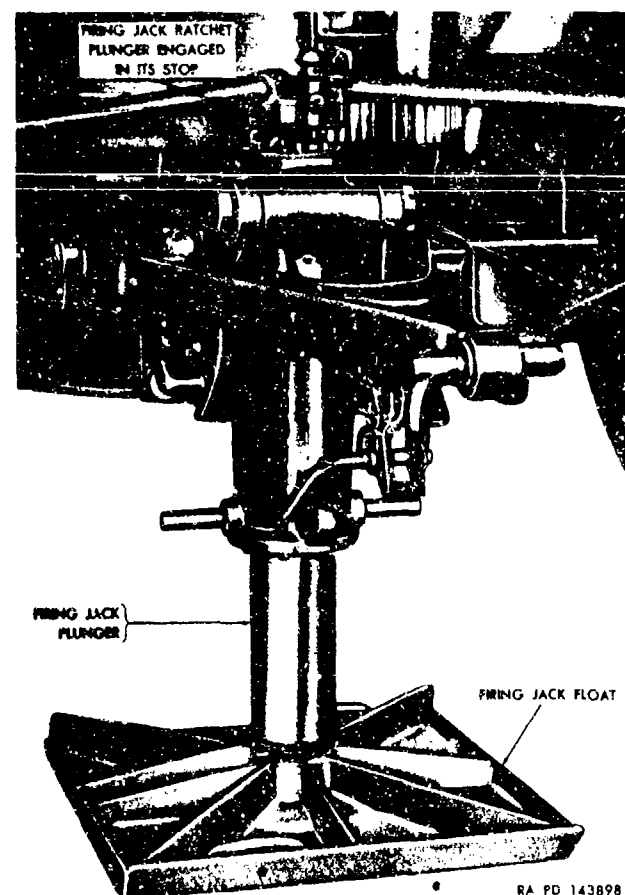
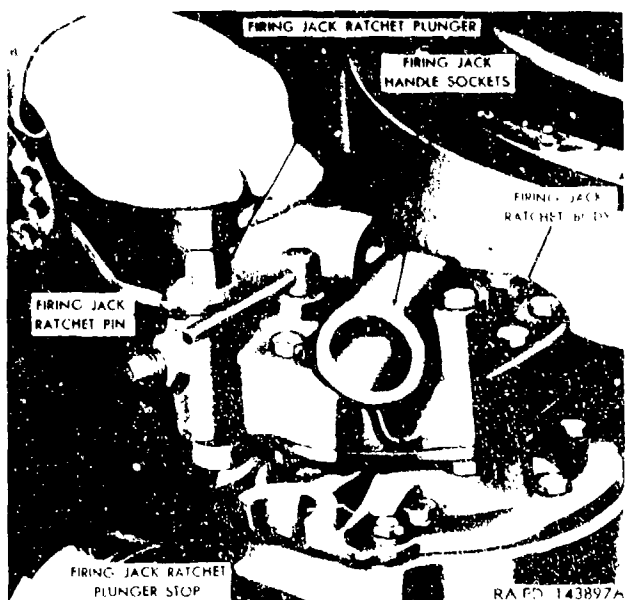

Figure 5-6. Carriage M1A2 firing jack and traveling lock—firing position.
Figure 5-7. Carriage M1A2 rotating firing jack ratchet body.
*a. General.* The firing jack and traveling lock used on the M1A1 carriage of the M114 howitzer differs from that used on the M1A2 carriage (fig 5-6) of the M114A1 howitzer in the following ways:
(1) The firing jack for carriage M1A1 has a rack gear type of plunger.
(2) The firing jack for carriage M1A2 has an internal screw type of plunger (fig 5-7).